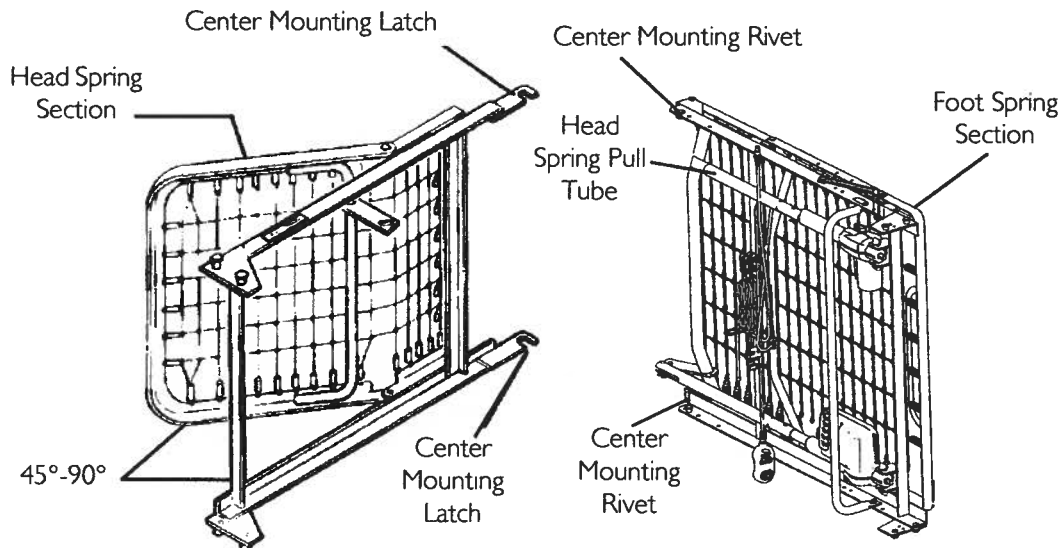
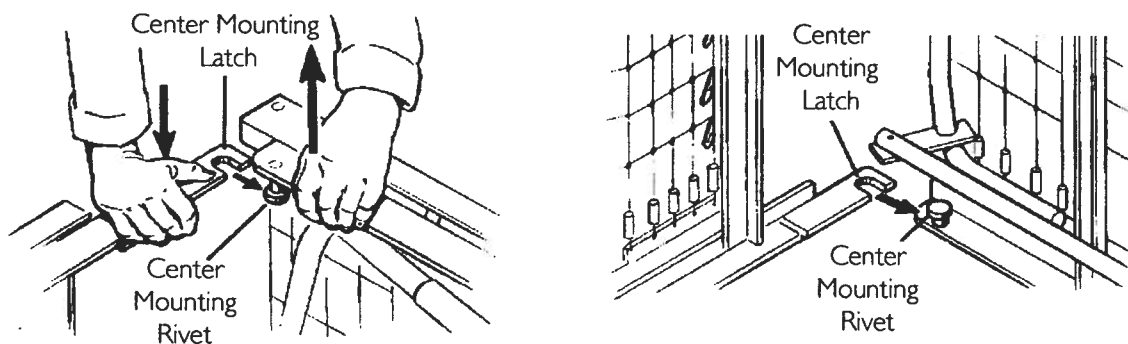

FIGURE 4.3 Set-Up
FIGURE 4.4 Set-Up
NOTE: For this procedure, refer to FIGURE 4.3 and FIGURE 4.4 on page 23.
5. Place the head spring section on its side to your left so the center mounting latches are on the right. Refer to FIGURE 4.3.
6. Open the head spring section to a 45° to 90° angle to support the spring section. Refer to FIGURE 4.3.
8. Place the foot spring section on its side on your right with the head spring pull tube at the top of the assembly. The center mounting rivets should be on the left. Refer to FIGURE 4.3.
10. Hook the bottom head spring center mounting latch to the bottom foot spring center mounting rivet. Refer to FIGURE 4.4.
11. Hook the top head spring center mounting latch to the top foot spring center mounting rivet. Refer to FIGURE 4.4.